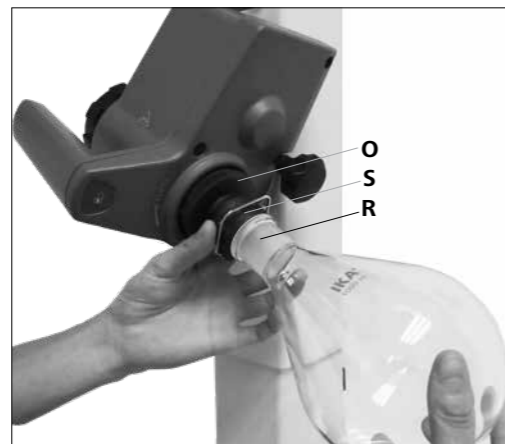

Fig. 15a
- Place the evaporation flask on the Vapour tube (R). (Fig. 15a)